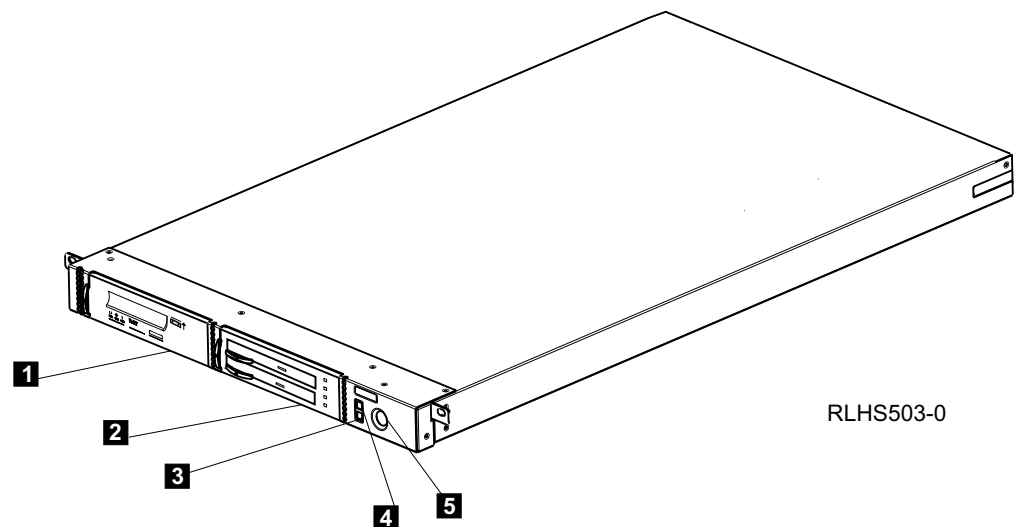

Figure 1. Front view of the storage enclosure
Figure 1 shows the 7214 Storage Enclosure with a DAT-72 4mm tape drive installed in Bay A and a DVD assembly with two DVD drives installed in Bay B.
**Bay A** Bay A, **1** on the left front of the 7214 Storage Enclosure (see Figure 1 on page 1), can accommodate a single tape storage device or a bay blank.
**Bay B** Bay B, **2** on the right front of the 7214 Storage Enclosure (see Figure 1 on page 1), can accommodate a single tape storage device, a DVD assembly tray, or a bay blank.